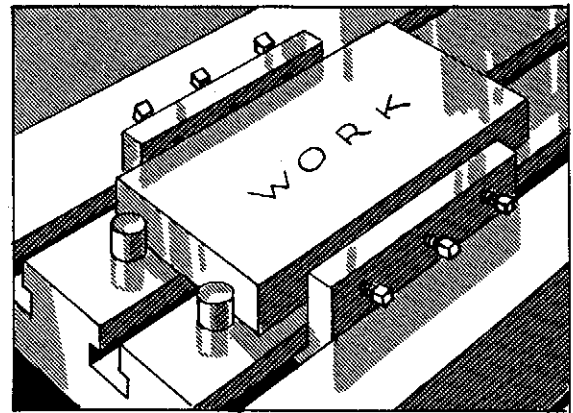

FIG. 182
5. Note that the work can be held between individual stops or by those arranged in sets, and that the screws may be parallel with the surface of the table instead of set at an angle (Fig. 182). To compensate for different widths of work, strips of various widths can be arranged to be used with any of the stops and slots.